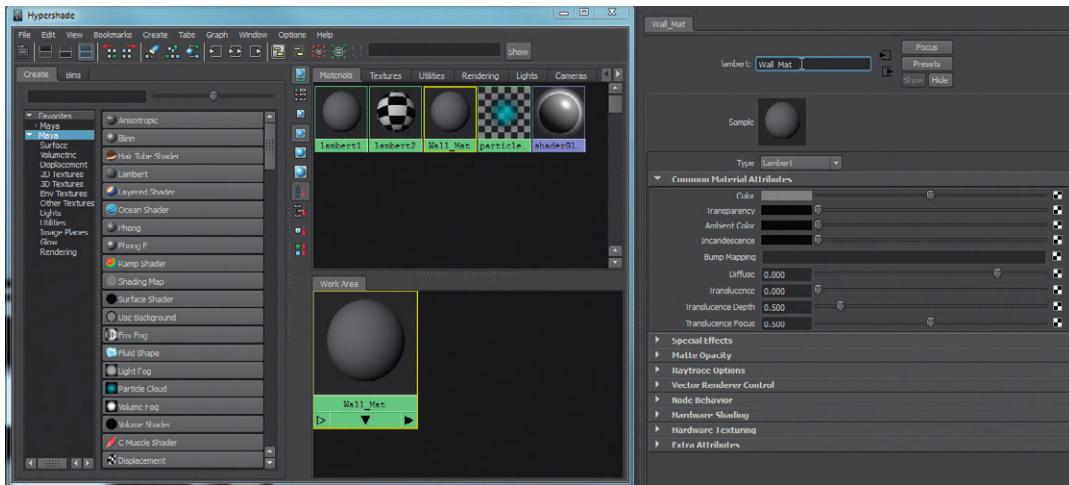

FIG 6.7 Creating and preparing to edit a new material: *Wall_Mat*.
Step 17: Create a new wall material. Do this by opening the Hypershade. In the Create Area, click the Lambert button. This will create a new material (probably called lambert3) that will show up in both the Materials tab and the Work area. Double-click this new material, and it should show up in the Attribute Editor as well. Rename the material to `Wall_Mat` (Fig. 6.7).